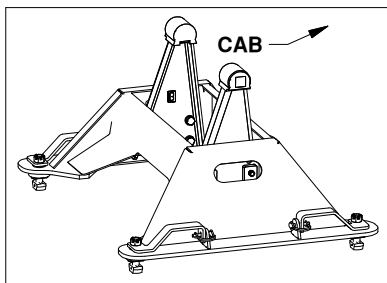
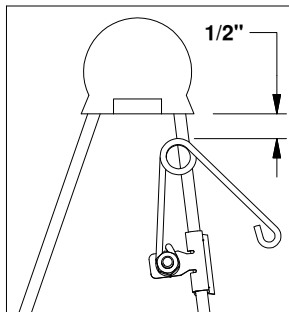

Figure B3: View of base.
Figure B4: Driver
2. **Attach kit.** Locate the flange which will be closest to the truck cab on the driver side pivot arm, see Figure B3. The clip should be placed so that when the springs coil is in the line with the edge of the arm there will be 1/2" of clearance between the bottom of the rubber bumper and the top of the spring, see Figure B4. Drive the clip securely onto the flange with a hammer.